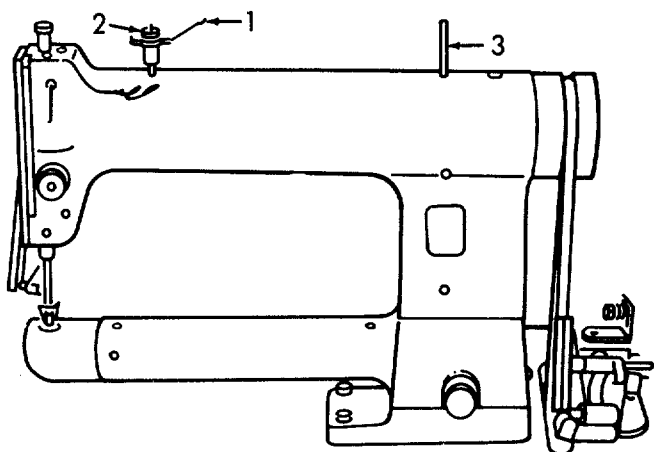

Figure 6-90. Needle Thread Guide Assembly, Installation.
(3) Refer to Figure 6-90. Install entire needle thread guide (1) into hole and tap lightly to seat.
(4) Install post (3).